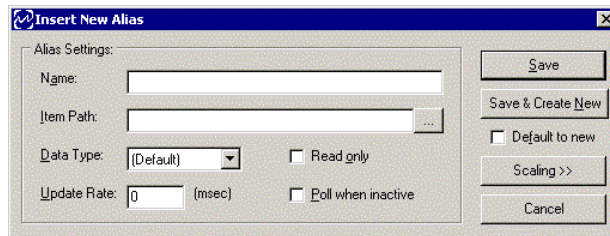

Figure 3-6. The Insert New Alias dialog box.
- The **Insert New Alias** dialog box appears (Figure 3-6).